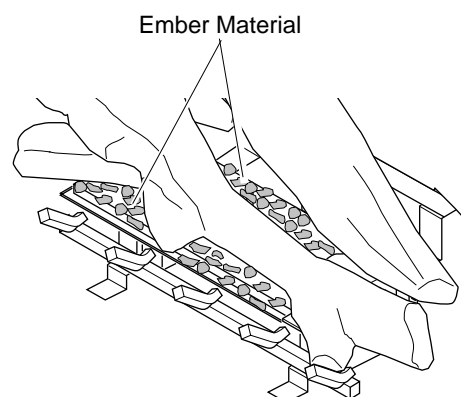

Figure 49 - Placing Ember Material on Burner
5. Pull ember material apart into pieces no larger than a dime. Place these pieces loosely onto the exposed section of the front burner and space between logs 2 and 3 where front burner is exposed (see Figure 49). This will create the glowing appearance as the flame touches the ember material. Do not block ports by using too much ember material in one area. It is not necessary to use all of the ember material provided.